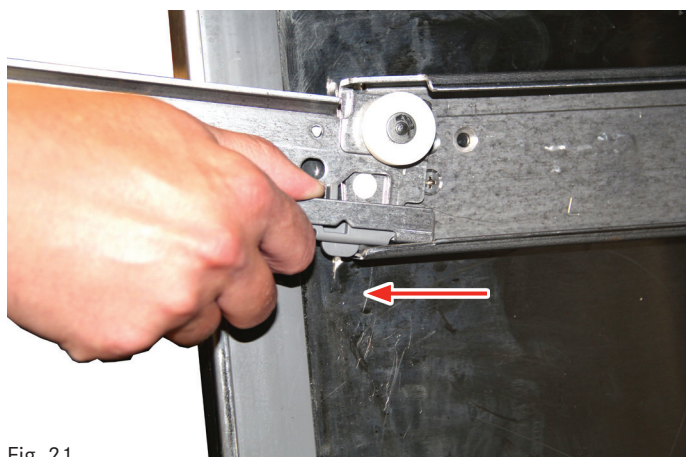

Fig. 21
1. Push each drawer slider completely back into their rails inside of the refrigerator cabinet. Pull the slider lock forward to re-engage the lock (Fig. 21).